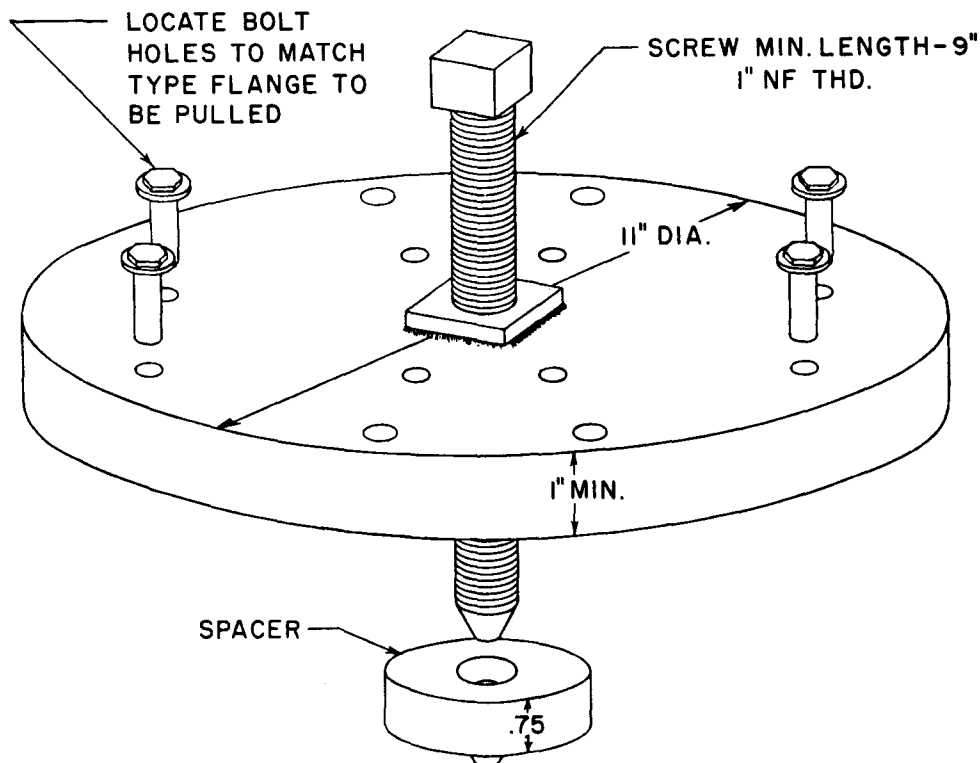

Fig. IV-2. Improvised puller for interference-fit flanges
a. Removing. When interference-fit drive flanges are used, they should be removed before further disassembly is started. A heavy-duty puller kit is required. The transmission drive flanges must be prevented from rotating while the puller is used. A heavy steel plate may be bolted to the ears of the flange to provide a grip for the puller jaws. Drill the center of the plate to let the puller screw pass through to the transmission shaft. Use bolts to fasten the plate at all bolt locations on the flange. Such a plate will prevent distortion of the flange during the pulling process. The plate should be at least 1 inch thick. It may be tapped for a puller screw in the center if a puller kit is not available. The puller screw should be at least 1 inch in diameter, should be heat treated and have a fine thread (1-14). A typical improvised puller is illustrated in fig. IV-2.